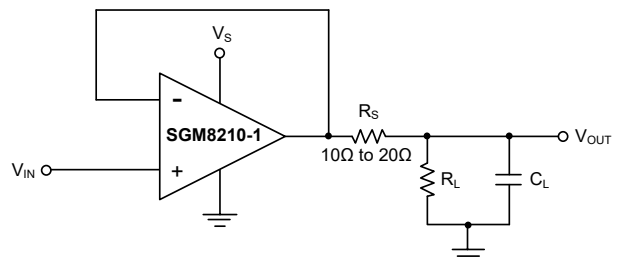

Figure 2. Series Resistor in Unity-Gain Buffer Configuration Improves Capacitive Load Drive
Follow-on configurations with load capacitance in excess of 30pF can produce extra overshoot and ringing in the output signal. Increasing the gain enhances the ability of the amplifier to drive greater capacitive loads. In unity-gain configurations, capacitive load drive can be improved by inserting a small (10Ω to 20Ω) resistor, R_S , in series with the output, as shown in Figure 2. This resistor significantly reduces ringing while maintaining direct current (DC) performance for purely capacitive loads. However, if there is a resistive load in parallel with the capacitive load, a voltage divider is created, introducing a DC error at the output and slightly reducing the output swing. The error introduced is proportional to the ratio R_S/R_L , and is generally negligible.